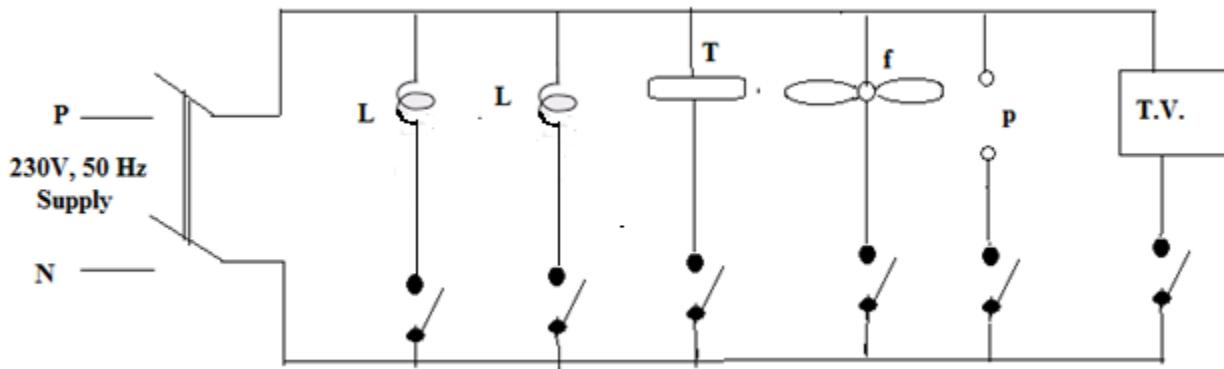

Fig. 4.1. Practical cases of parallel connections
- The fig4.1 shows the circuit diagram of practical series parallel connection